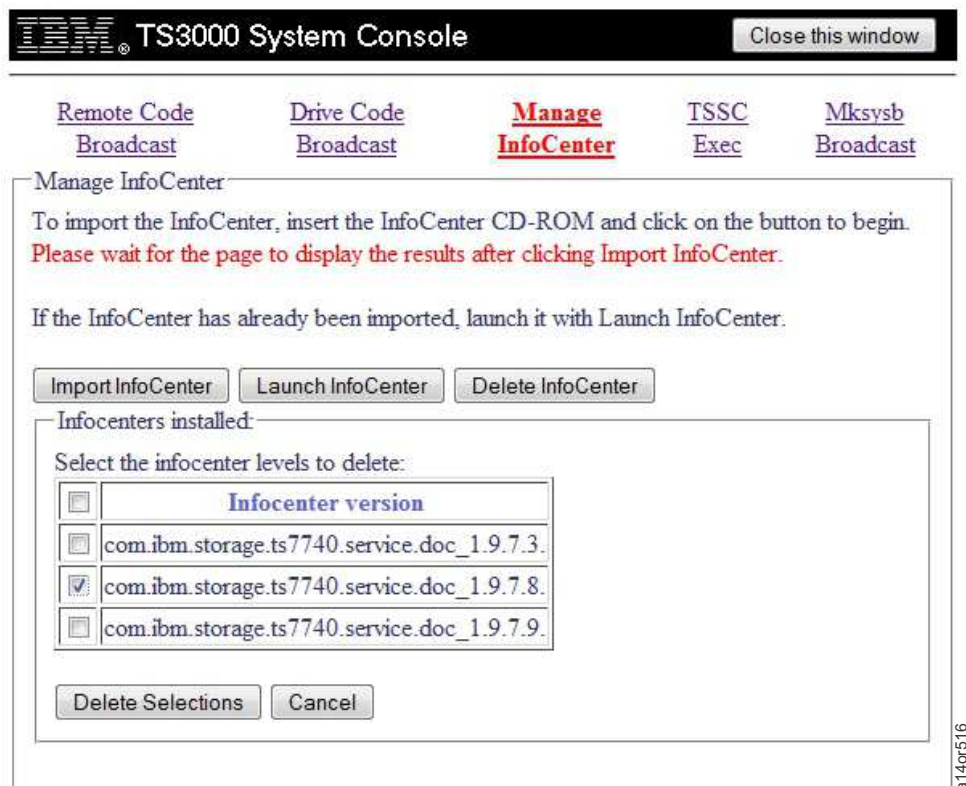

Figure 256. Different InfoCenter levels installed
7. To delete a level of InfoCenter, from the Manage InfoCenter screen, click **Delete InfoCenter**. If there is at least one level of InfoCenter installed it will be displayed in a box similar to the one shown in Figure 256.